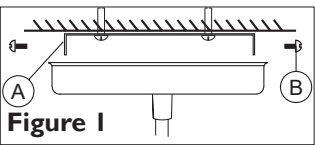

Figure 1
See Figure 1. Remove the fixing bracket (A) from the ceiling cover by removing the side screws (B).
Refer back to Figure 1. Attach the product to the fixing bracket (A), by locating the screws (B) in the bracket into the holes in the ceiling cover and tightening the screws to secure. Take care not to trap any wiring.